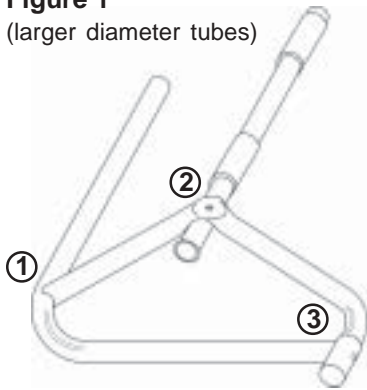

Figure 2
- Loosely assemble joints **1** and joints **3** using the 2" (5 cm) bolts (H11905). See *Figure 2*. **DO NOT TIGHTEN THE BOLTS YET.**